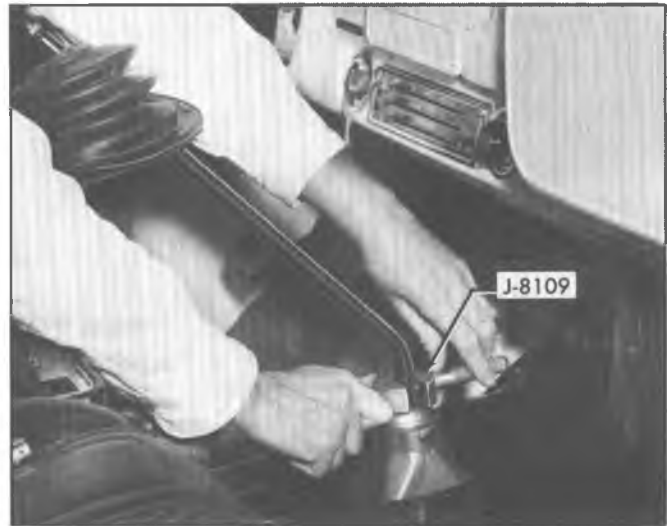

Fig. 26—Removing Transmission Gearshift Lever
- Slide boot and retainer up on shift lever and remove the transmission shift lever using Tool J-8109 as shown in Figure 26.
3. Remove attaching screws from transmission shift lever boot retainer. Slide boot and retainer up lever and remove transmission shift lever using Tool J-8109 as shown in Figure 26.